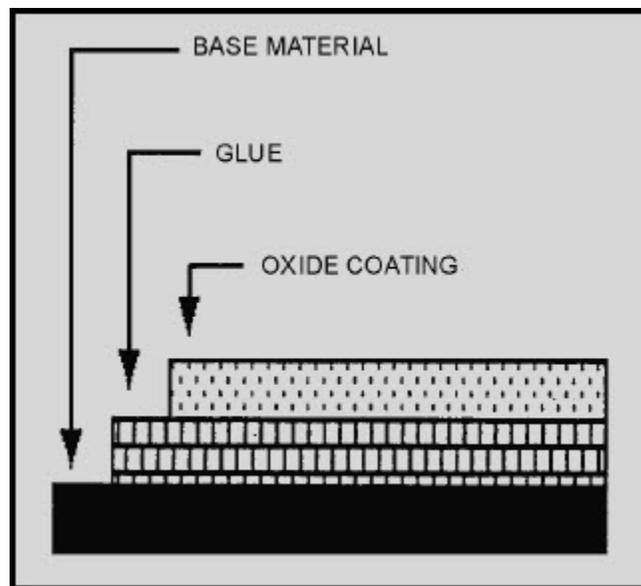

Figure 2-1 Magnetic tape construction
The three basic materials used to make magnetic tape are (1) the base material, (2) the coating of magnetic oxide particles, and (3) the glue to bind the oxide particles onto the base material. See figure 2-1.